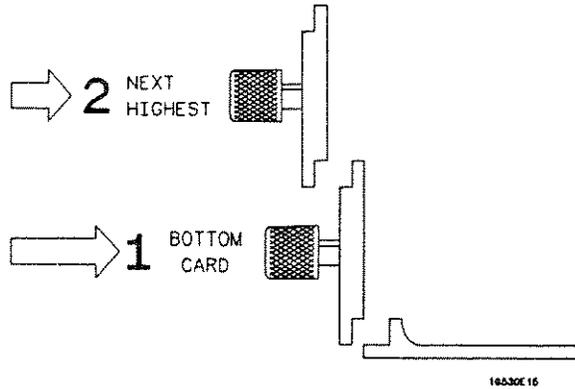

Figure B-5. Endplate Overlap
10. Position all cards and filler panels so that the endplates overlap, as shown in figure B-5.